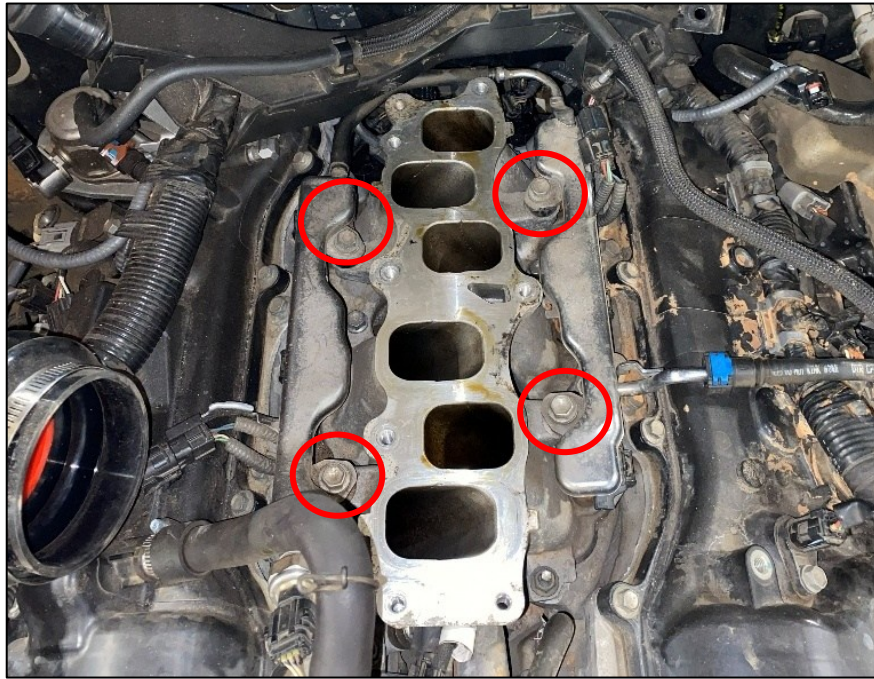

Figure 8
14. Unplug the (1) one Electrical Connector going to each Fuel Rail on the Lower Manifold.
15. Remove the (4) four bolts and (4) nuts securing the Lower Manifold to the Engine. Using a magnet to retrieve the hardware can help prevent it from falling into the Engine. *Figure 8.*